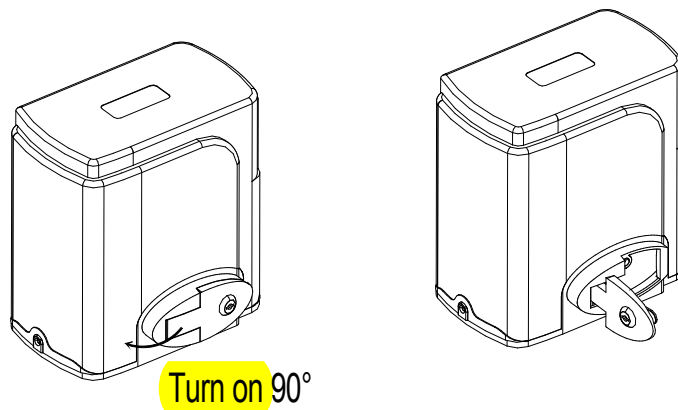

Figure 5
- c) Please unlock the main engine before installation, the unlock method is: insert the key, open the manual release bar till it rotates by 90° as shown in Figure 5. Then turn the output gear and the gear can be rotated easily;